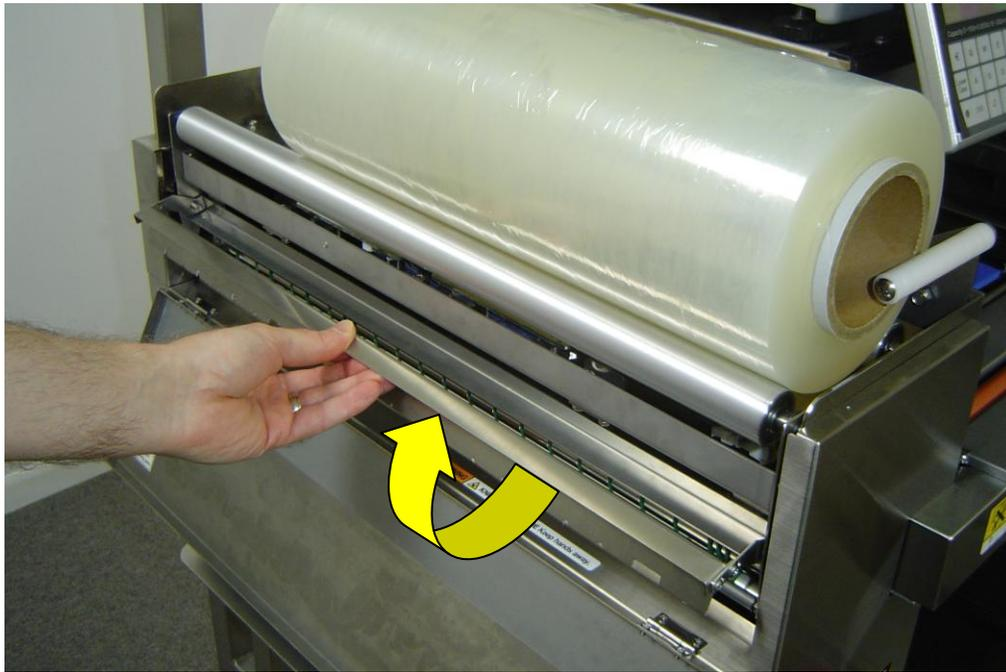

Figure 6.1.4. Raise the Film Loading Arm
- Open (raise) the Film Loading Arm. See Figure 6.1.4.